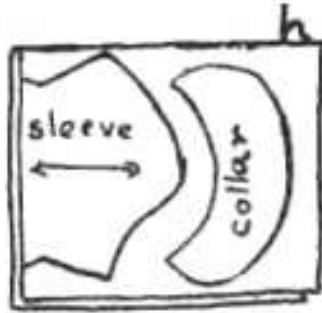

Fig.12.1h
- (f) Fit pieces similar in shape next to each other. This is called dovetailing (See Fig.12.1h).